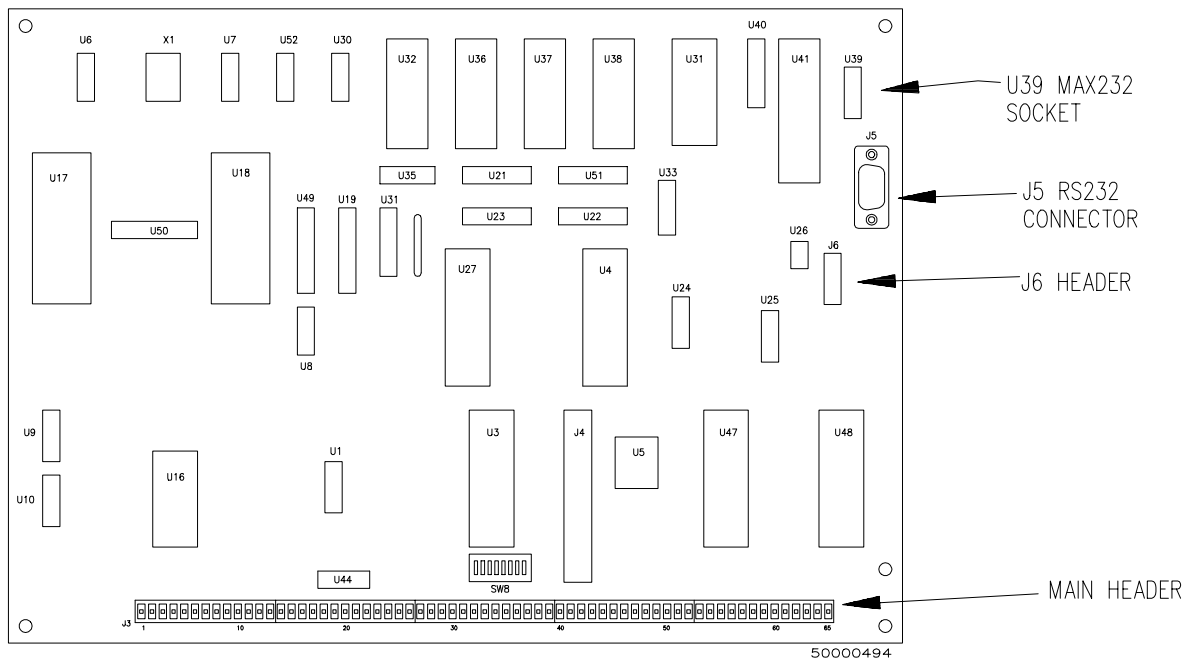

Figure 1 - CRT-260 Reference Diagram
4. Disconnect the ribbon cable from the J6 header on the CRT-260 board. See Figure 1.
7. Install the MAX232 chip at U39 (located next to the J5, RS232 connector on the edge of the board). See Figure 1. Make sure to align the notch in the chip with the notch in the socket.
11. Connect the cable from the SMT-3 to J5 (RS232 connector) on the CRT-260 board. See Figure 1.